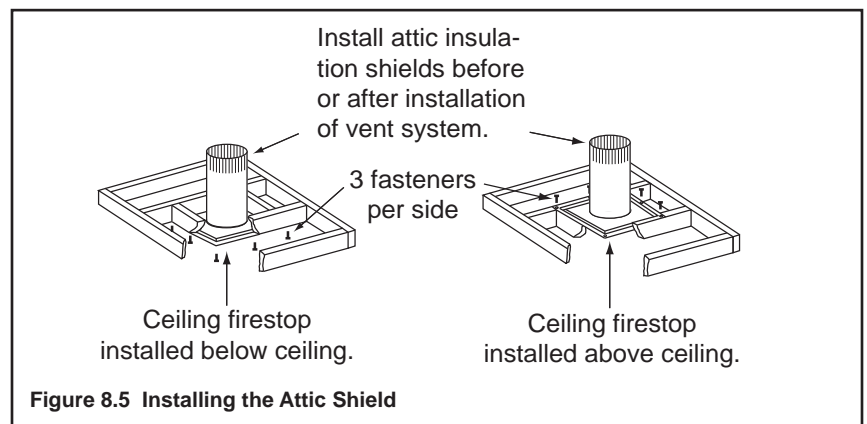

Figure 8.5 Installing the Attic Shield
- The ceiling firestop may be installed above or below the ceiling joists when installed with a attic insulation shield. It must be under joists between floors that are not insulated. Refer to Figure 8.5.